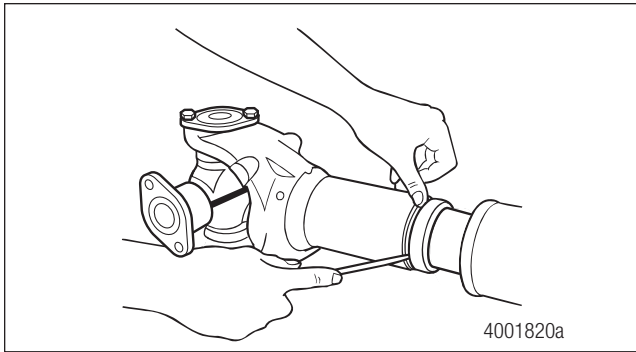

Figure 6.3
2. Use a screwdriver to pry the seal out of the groove in the slip yoke. Figure 6.3.